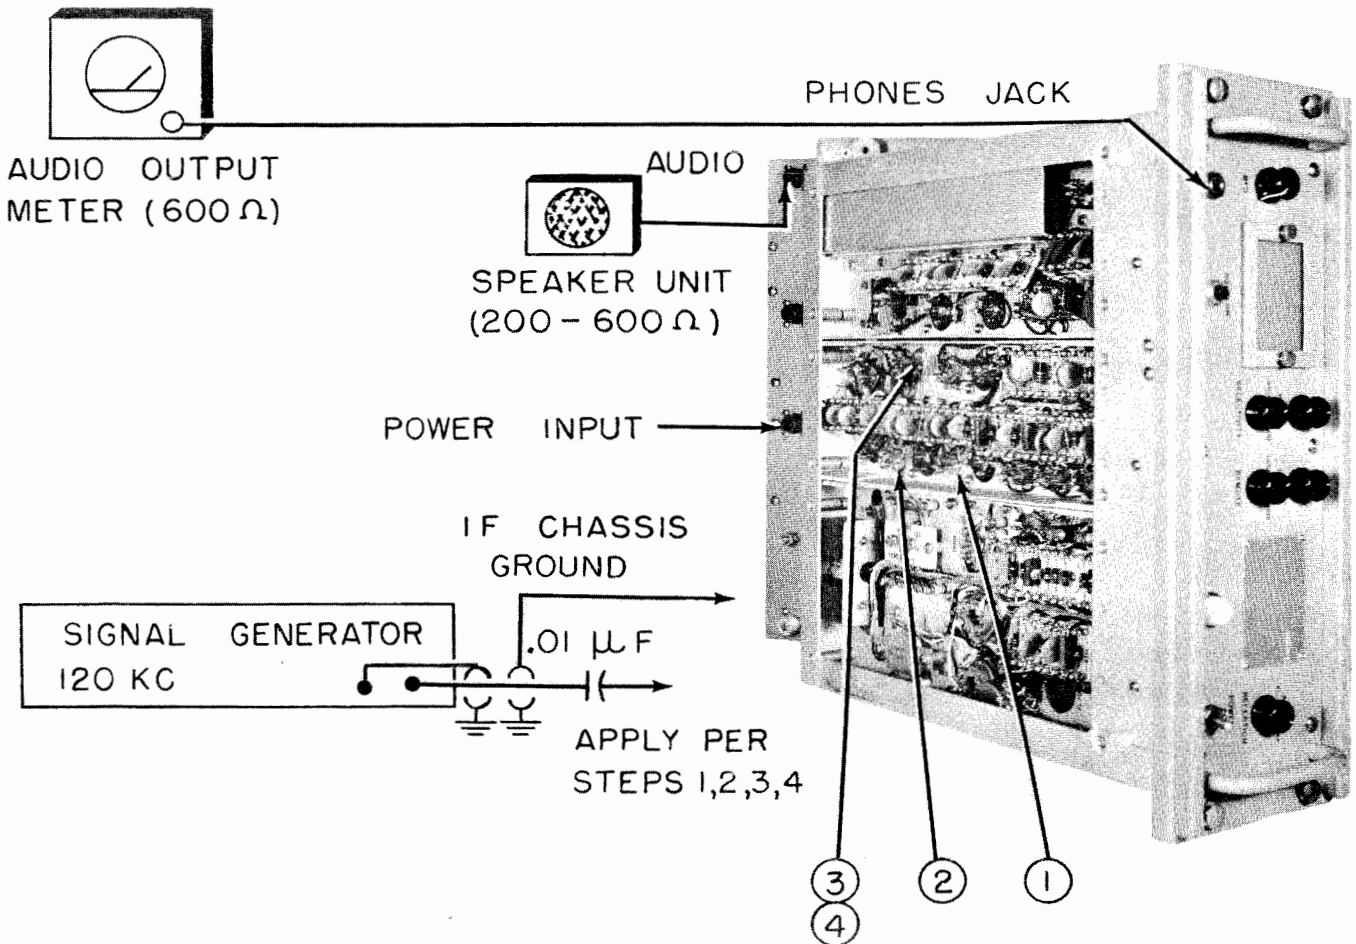

Figure 7-2. 120 Kc IF Amplifier Alignment Set-up
(4) Connect an audio load of 200-600 ohms impedance to the AUDIO receptacle J505 (pins A and B), located on the rear panel of the cabinet. This load can be a speaker, an audio output meter, or a resistance. (See Fig. 7-2.)
(9) Turn the RECEPTION switch (S301), located on the right side of the front panel, to the A2-A3 position. (See Fig. 7-2.)
(10) Turn the LOCAL-REMOTE switch (S403), located at the center of the front panel, to the LOCAL position. (See Fig. 7-2.)
(11) Turn the SELECTIVITY switch (S201), located at the center of the front panel, to the SHARP position. (See Fig. 7-2.)
(13) Turn the RF GAIN control (R405), located at the center of the front panel, to maximum clockwise position. (See Fig. 7-2.)
(15) Connect the line from the AC power source to the AC POWER receptacle (J502), located on the rear panel. Throw the POWER switch (S401), located on the front panel, to ON. (See Fig. 7-2.)
(1) Align 120 Kc IF stages. (See Fig. 7-2, Table 7-2.)
(2) Tune BFO to proper frequency. (See Fig. 7-2, Table 7-3.)
(1) Set up the receiver chassis and test equipment, as indicated in Figure 7-2.
(2) Prepare the 120 Kc signal generator for use by adjusting it to exactly 120 Kc with a Frequency Meter. Proceed with the alignment as outlined by steps 1 to 4 in Table 7-2.